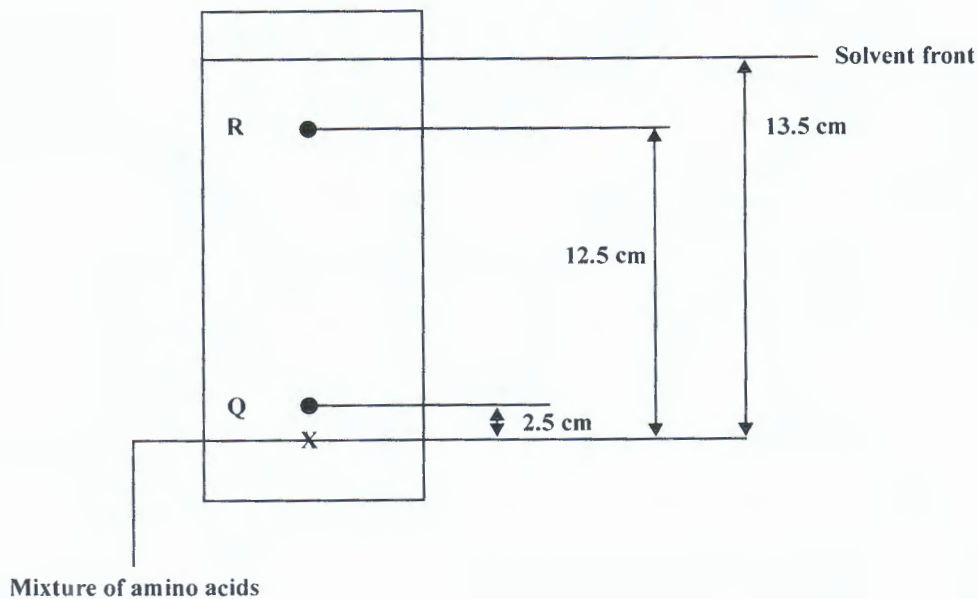

Figure 1. The separation of a mixture of amino acids
- (b) Figure 1 shows the separation of a mixture of amino acids, obtained in the hydrolysis of a dipeptide, on a thin layer chromatography (TLC) plate.